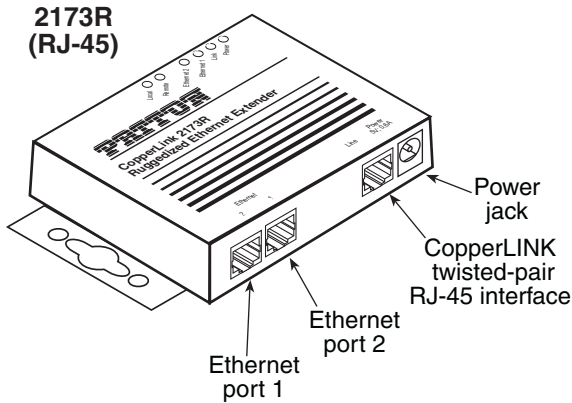

Figure 2. Model 2173R panel
**Note** See Figure 2 for the standalone unit’s rear panel arrangements.